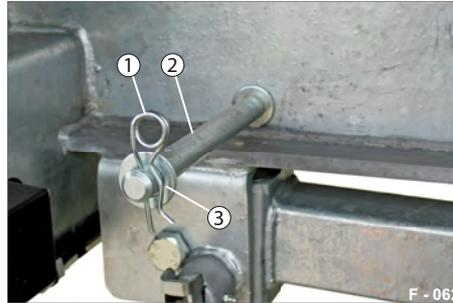

Fig. 87 Wheel chock holder
- ▶ Place the washer (Fig. 87/3) on the retaining bolt (Fig. 87/2).
- ▶ Stick the spring pin (Fig. 87/1) into the bore hole of the retaining bolt. The safety elements are secured against loss.